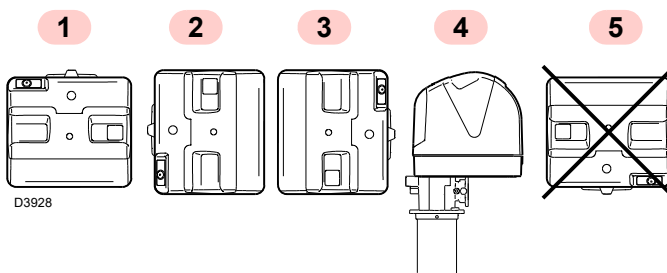

Fig. 10
- The burner is set up to operate only in positions 1, 2, 3 and 4 (Fig. 10).